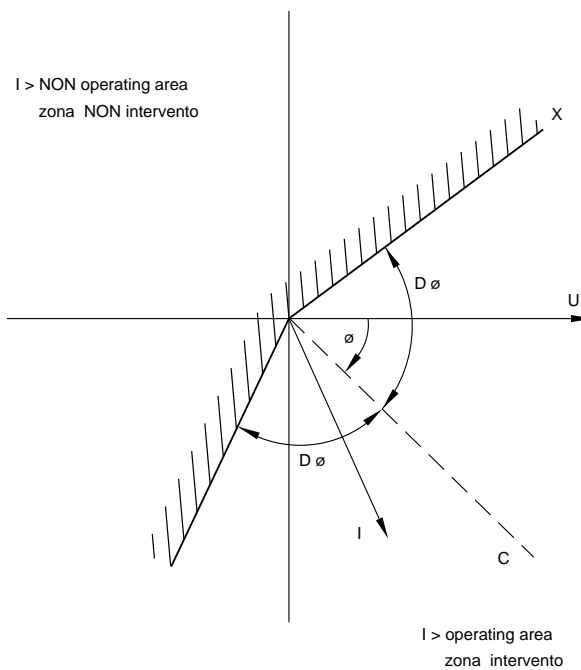

Figure 2
**Characteristic angle** - The characteristic angle is defined with the measured voltage as reference (straight line C in figure 2).
The characteristic angle can be programmed from  $+180^\circ$  to  $-180^\circ$  and it is shown using the notation  $\Phi_x$ . The angle  $\Phi_x$  of the sector axis is positive when lagging the voltage vector (see figure 2).